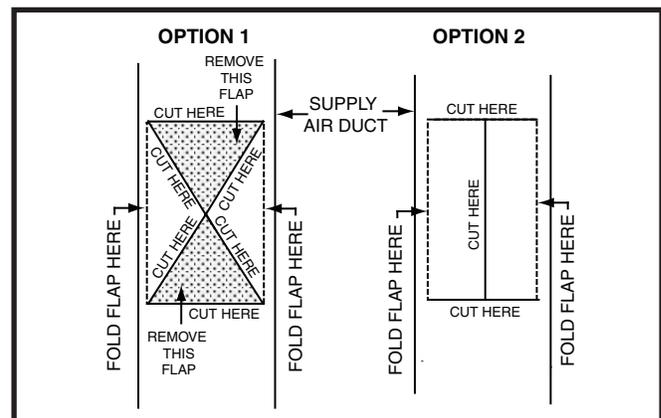

Figure 9. Narrow Air Duct Openings
- Score and cut the top of the supply air duct as indicated in Option 1 or Option 2 (Figure 9). With Option 1 choice, cut out the metal from the shaded area.